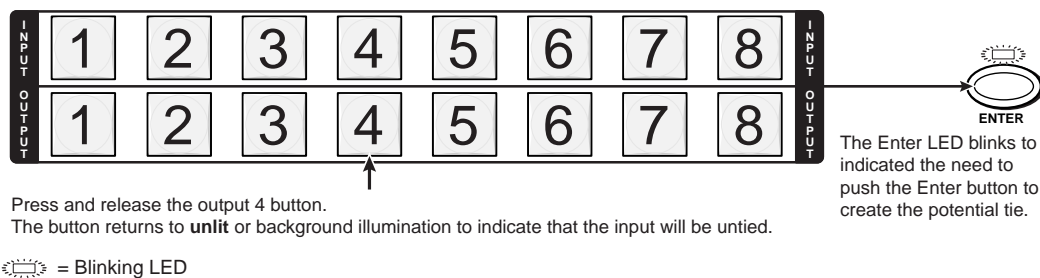

Figure 3-18 — Deselect an output
3. Press and release the output 4 button (figure 3-18).